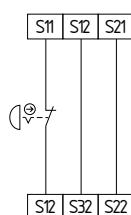

Fig. 8
**Single-channel emergency stop circuit with command devices to EN ISO 13850 and EN 60947-5-5 (see Fig. 8)**